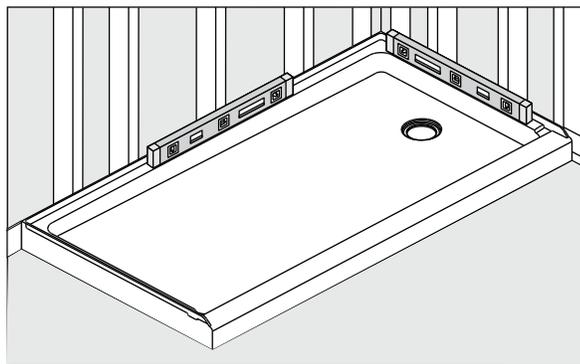

FIG 1 Check to ensure the base is level.
Step 2 - Trial fit base in prepared alcove. With base sitting on the floor, check for level on top of the base. The base should be level from front-to-back and side-to-side (Figure 1).